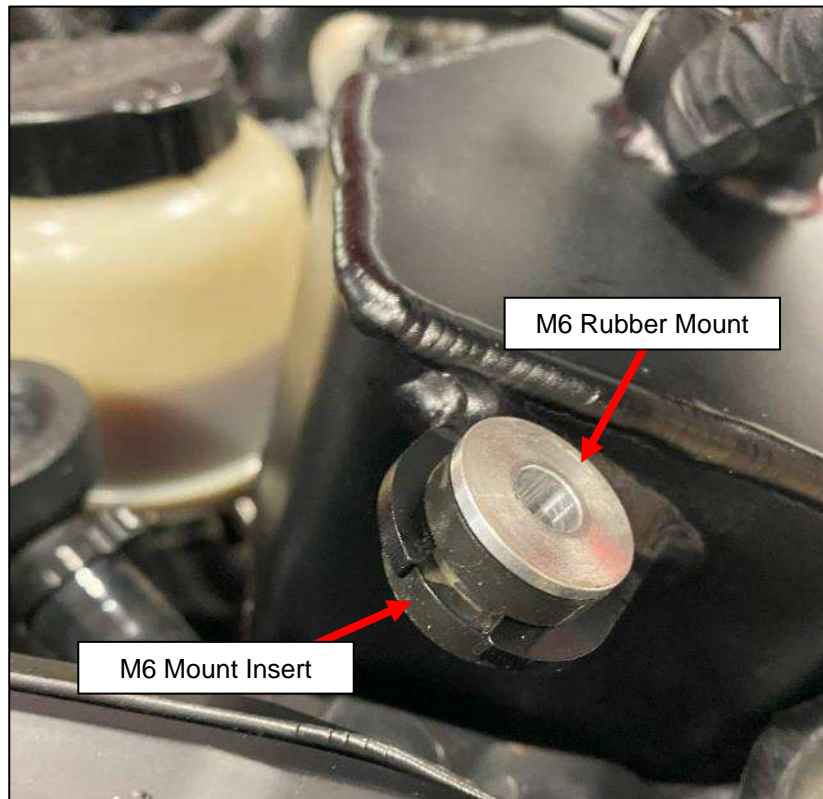

Figure 61
3. Locate the 350Z Coolant Overflow Tank (#69), M6 Rubber Mount (#71), and the M6 Mount Insert (#72). Place the Mount Insert into the Rubber Mount, and then install the Rubber Mount into the Clip on the side of the Coolant Overflow Tank. *Figure 61.*